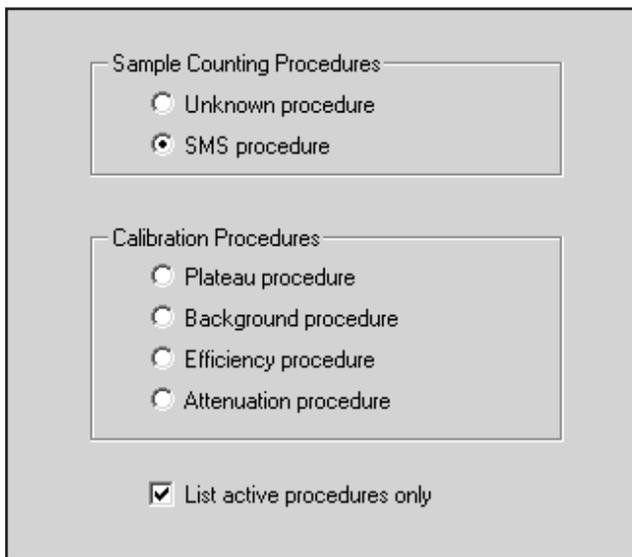

Figure 72 Initial Procedure Manager Screen
The Eclipse LB Procedure Manager can be initiated using either of two methods. From the **Manage** menu, choose **Procedures** or from the toolbar select the **Procedure Manager (PM)** button. The initial Procedure Manager screen (Figure 72) appears allowing you to select and create, or edit, a Sample Counting or Calibration Procedure.